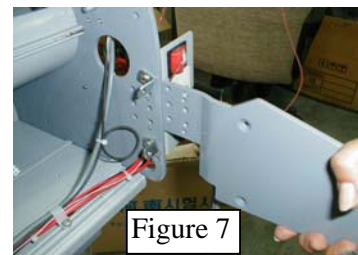

Figure 7
- b. Detach the Main PCB from 6 white plastic holders. Figure 7
- d. Disassemble the power switch bracket and place the left rewriter outside of the frame; fasten with round head 5/16 (9mm) Phillips screws (included in the option kit). Then, reinstall the power switch bracket (Figure 7).